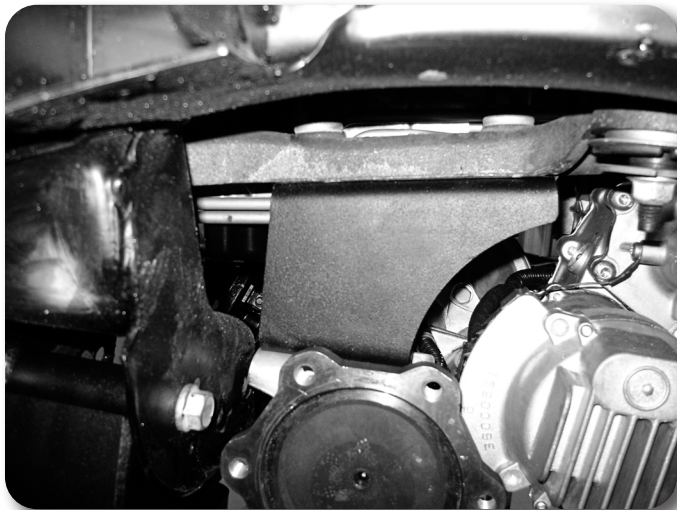

Figure 29 - Shown with differential already installed
40. Install the new passenger's side differential bracket to the original mounting studs with the factory nuts **Figure 29**. The bracket mounting surface with 3 holes in it goes to the frame and the open face toward the inside of the vehicle. Torque nuts to 65 ft-lbs.